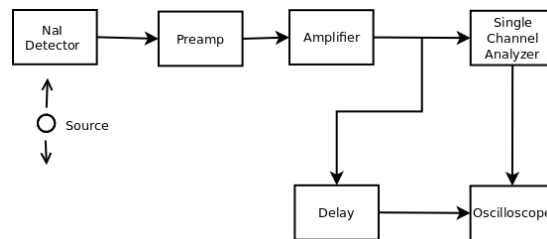

Figure 2: Circuit to set the delay
- To begin: Set up a circuit as shown in Figure 2, using the ^{22}Na source. Set the oscilloscope to trigger on the logic signal from the SCA. Notice that the logic pulse comes after the start of the signal from the NaI detector. This means that we need to delay the NaI signal or else we won't be able to capture the whole signal.